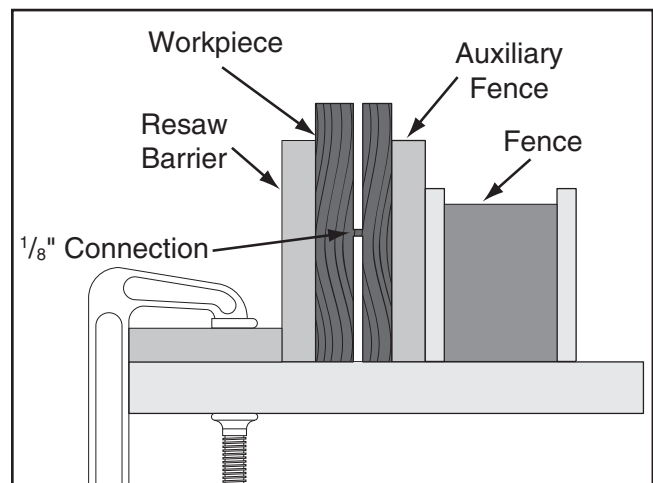

Figure 68. Ideal completed resaw cut.
10. Repeat **Steps 7–9** until blade is close to half height of board to be resawn. Ideal completed resaw cut will leave a $\frac{1}{8}$ " connection when resawing is complete, as shown in **Figure 68**. Leaving a $\frac{1}{8}$ " connection will reduce risk of kickback.